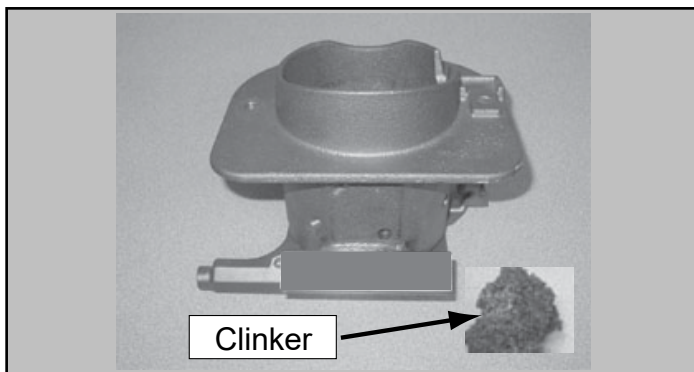

Figure 17.2 - Fire pot with large clinker
- d. It may be necessary to use your firepot clean-out tool to chip away material that has built up on the sides of the firepot and to push out any clinkers (**Figure 17.2**).